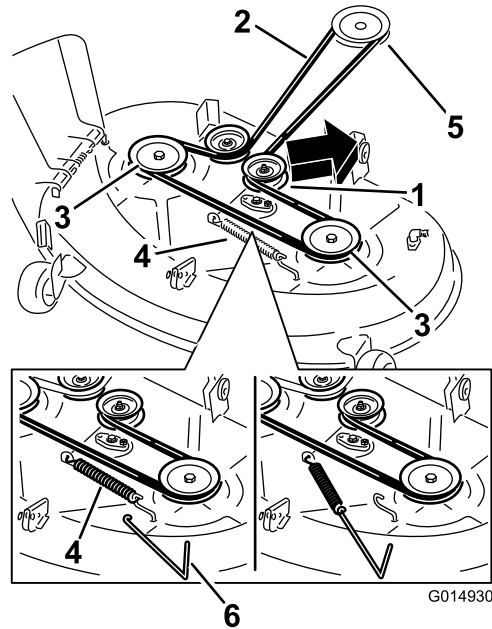

Figure 69
5. Using a spring-removal tool (Toro Part No. 92-5771), remove the idler spring from the deck hook to remove tension on the idler pulley, and roll the belt off the pulleys (Figure 69).
6. Route the new belt around the engine pulley and mower pulleys (Figure 69).
7. Using a spring-removal tool, install the idler spring over the deck hook, and place tension on the idler pulley and mower belt (Figure 69).